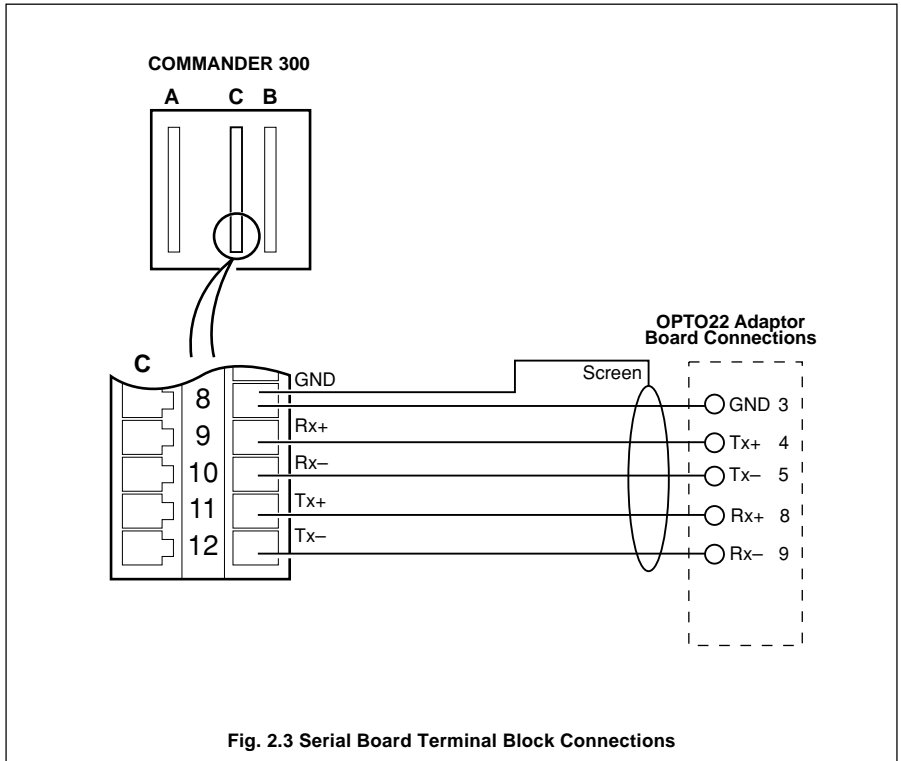

Fig. 2.3 Serial Board Terminal Block Connections
2.6 Serial Connections – Fig. 2.3
Make serial data connections as shown in Fig. 2.3. The type of cable used is dependent on the cable length: